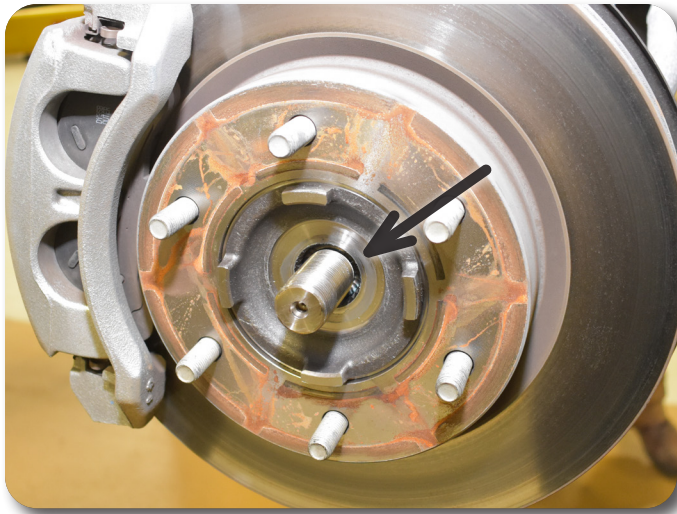

Figure 6
9. **Optional:** Remove the CV retaining nut. **Figure 6**